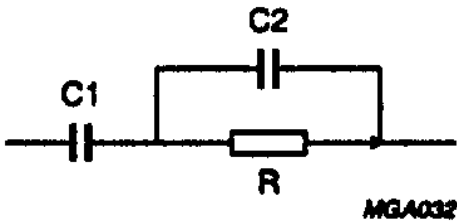

Fig.8 Loop filter.
- I_{CP} = charge-pump current (A)
- $C1$ and $C2$ = loop filter capacitors (see Fig.8)